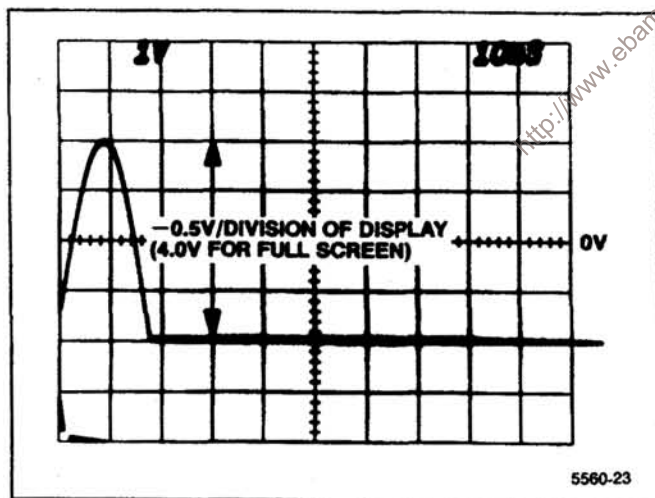

Figure 4-23. Test oscilloscope display of VERT output with a full screen display on the Spectrum Analyzer.
e. Check that the amplitude of the VERT OUTPUT signal is 4 V peak-to-peak \pm 0.2 V centered around 0 Vdc as displayed on the test oscilloscope. See Figure 4-23.